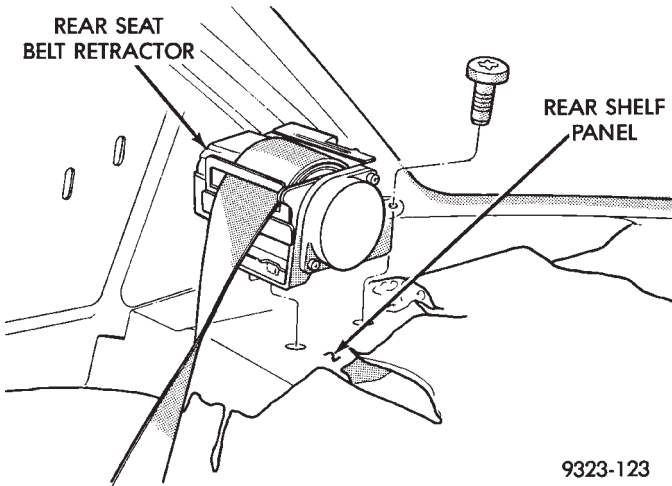

Fig. 67 Rear Seat Belt Retractor
- (1) Remove upper quarter trim panels.
- (2) Remove one lower quarter trim panel.
- (3) Remove parcel shelf trim cover.
- (4) Remove bolt holding lower seat belt anchor to floor below quarter trim.
- (5) Remove bolt holding belt retractor to shelf panel (Fig. 67).
- (6) Separate belt from vehicle.